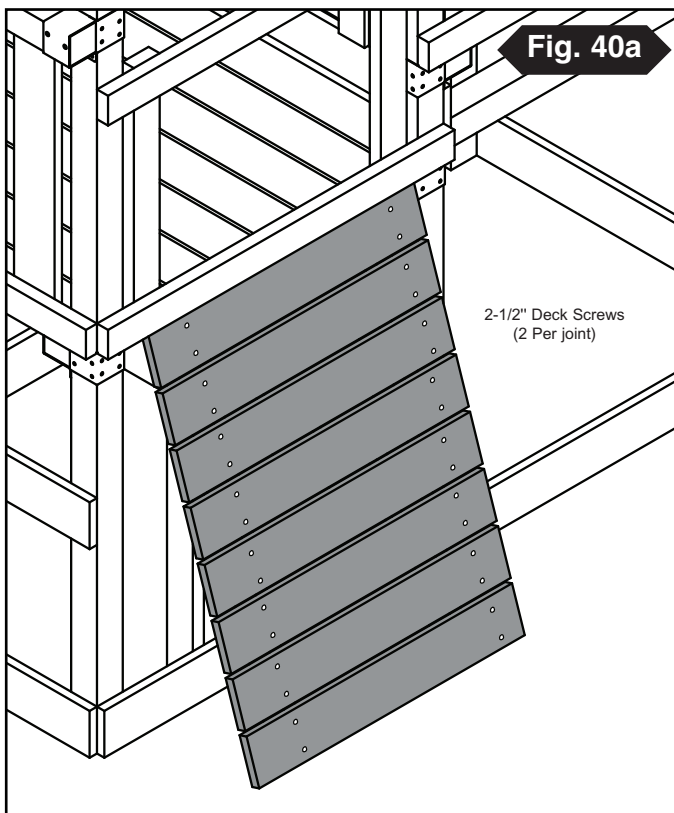

Fig. 40a
2. Attach (8) 5/4" x 6" boards to (2) 2" x 4" boards and install on unit as shown in **(Fig. 40a)**.
3. Secure Rock Wall to unit using (3) 2-1/2" screws per side.